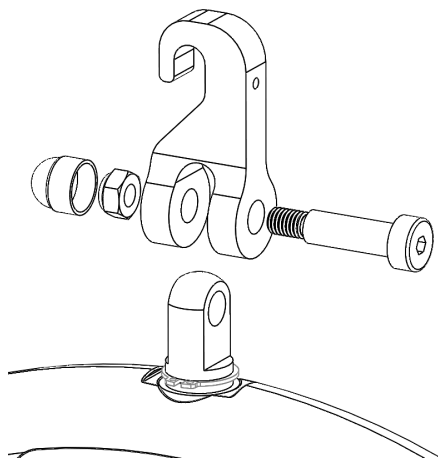

Figure 8
Remove the Swifthook using the appropriate Allen key (5mm) and wrench (13mm). See figure 8.